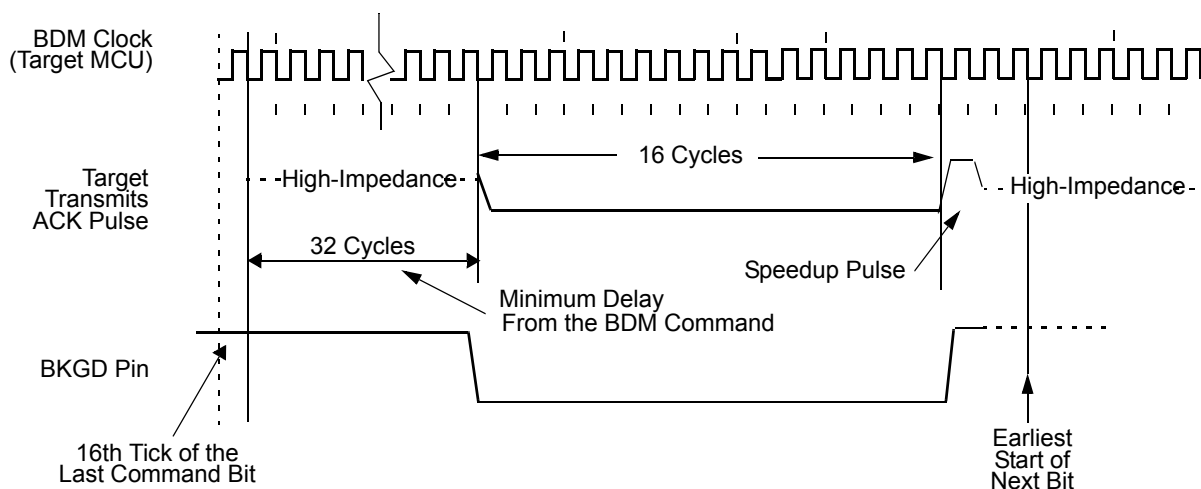

Figure 58. Target Acknowledge Pulse (ACK)
The hardware handshake protocol signals to the host controller when an issued command was successfully executed by the target. This protocol is implemented by a 16 serial clock cycle low pulse followed by a brief speedup pulse in the BKGD pin. This pulse is generated by the target MCU when a command, issued by the host, has been successfully executed (see Figure 58). This pulse is referred to as the ACK pulse. After the ACK pulse has finished: the host can start the bit retrieval if the last issued command was a read command, or start a new command if the last command was a write command or a control command (BACKGROUND, GO, GO_UNTIL(182) or TRACE1). The ACK pulse is not issued earlier than 32 serial clock cycles after the BDM command was issued. The end of the BDM command is assumed to be the 16th tick of the last bit. This minimum delay assures enough time for the host to perceive the ACK pulse. Note also that, there is no upper limit for the delay between the command and the related ACK pulse, since the command execution depends upon the CPU bus, which in some cases could be very slow due to long accesses taking place. This protocol allows a great flexibility for the POD designers, since it does not rely on any accurate time measurement or short response time to any event in the serial communication.